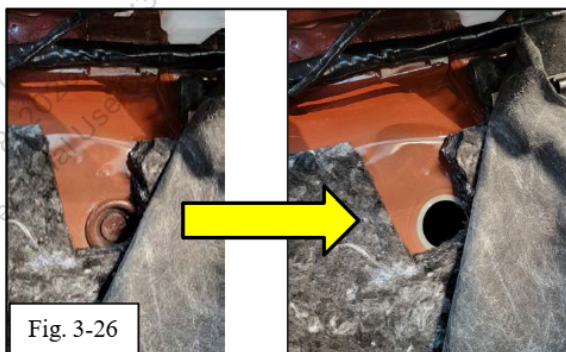

Fig. 3-26
- (q) Remove the exposed floor grommet and discard (Fig. 3-26).